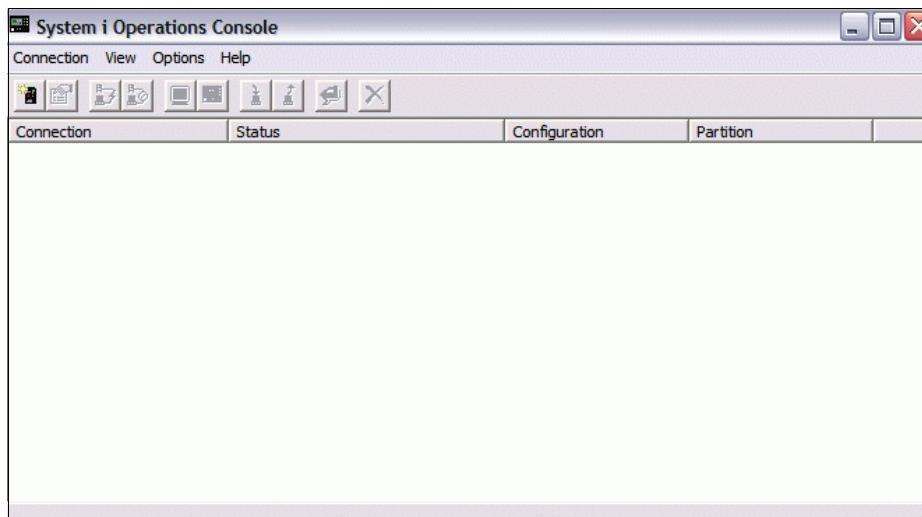

Figure 7-33 IBM System i Operations Console
1. In the active Windows session, select **Start** → **All Programs** → **IBM System i Access for Windows** → **Operations Console**. The window shown in Figure 7-33 on page 281 should appear.
Figure 7-33 on page 281 shows an example of the System i Operations Console panel.